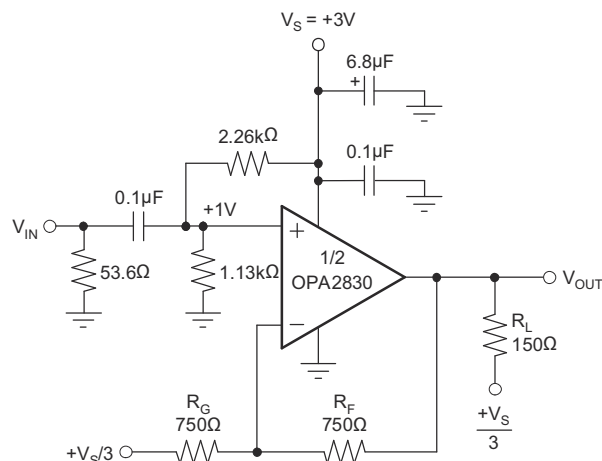
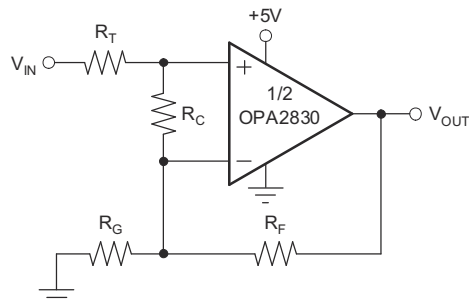

Figure 8-2. AC-Coupled, G = +2, 3V Single-Supply Specification and Test Circuit
Figure 8-8. Compensated Noninverting Amplifier
at $T_A = 25^\circ\text{C}$, $G = +2V/V$, and $R_L = 150\Omega$ to $V_S/3$ (unless otherwise noted); see also Figure 8-2
図 8-2 shows the ac-coupled, gain of +2 configuration used for the 3V *Specifications* and *Typical Characteristics*. Voltage swings reported in the *Electrical Characteristics* are taken directly at the input and output pins. For the circuit of 図 8-2, the total effective load on the output at high frequencies is 150Ω || 1500Ω. The 1.13kΩ and 2.26kΩ resistors at the noninverting input provide the common-mode bias voltage. The parallel combination equals the dc resistance at the inverting input (R_F), reducing the dc output offset due to input bias current.
Figure 8-8 shows a noninverting amplifier that reduces peaking at low gains. The resistor R_C compensates the OPA2830 to have higher Noise Gain (NG), which reduces the ac response peaking (typically 4dB at $G = +1$ without R_C) without changing the dc gain. V_{IN} needs to be a low impedance source, such as an op amp.
Frequency response in a gain of +2 can be modified to achieve exceptional flatness simply by increasing the noise gain to 3. One method, without affecting the +2 signal gain, is to add a 2.55kΩ resistor across the two inputs (see Figure 8-8). A similar technique can be used to reduce peaking in unity-gain (voltage follower) applications. For example, by using a 750Ω feedback resistor along with a 750Ω resistor across the two op amp inputs, the voltage follower response is similar to the gain of +2 response of Figure 8-2. Further reducing the value of the resistor across the op amp inputs, further dampen the frequency response due to increased noise gain. The OPA2830 exhibits minimal bandwidth reduction going to single-supply (5V) operation as compared with ±5V. This minimal reduction is because the internal bias control circuitry retains nearly constant quiescent current as the total supply voltage between the supply pins is changed.
The criterion for setting this R_S resistor is a maximum bandwidth, flat frequency response at the load. For a gain of +2, the frequency response at the output pin is already slightly peaked without the capacitive load, requiring relatively high values of R_S to flatten the response at the load. Increasing the noise gain also reduces the peaking (see Figure 8-8).